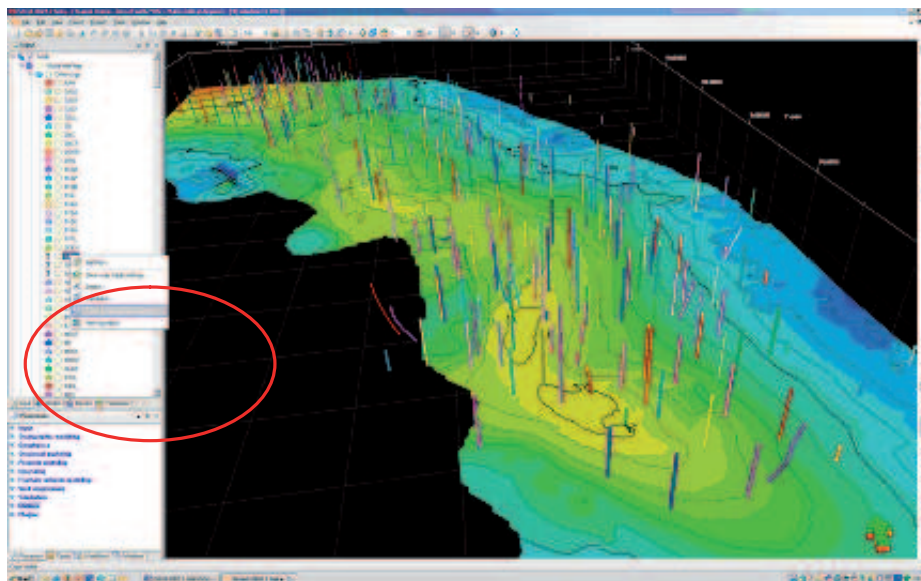

Figure 2: 3D window showing "Copy as derived log template" option
Step 2: To find all the wells containing any type of GR log, it is necessary to create a "derived" log. Right-click on any GR log curve in the Global well logs folder and select "Copy as derived log template" (as shown in Figure 2).